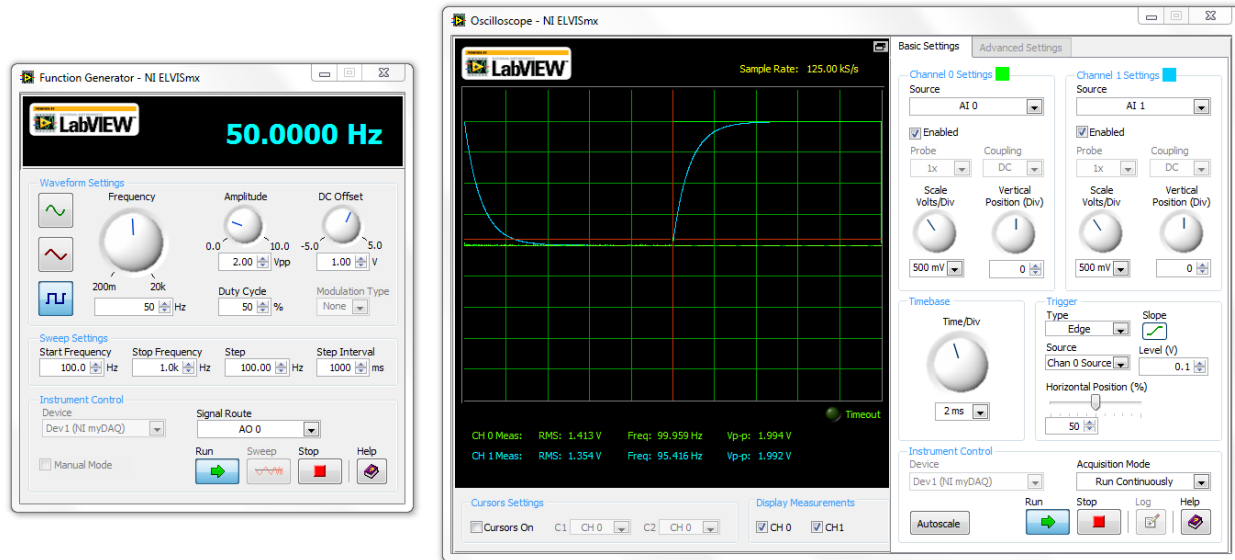

Figure 12: Open loop response of the first order plant
3. Connect a 1 μF (105) capacitor from pin 5 to ground. Connect a 1 $\text{k}\Omega$ from pin 5 to the function generator and Channel 0 of the oscilloscope.
6. Measure the output of the plant and it should look like Figure 12. This represents the open loop response of the system plant. If you do not get a response similar to this figure, do not move on until you fix the circuit.